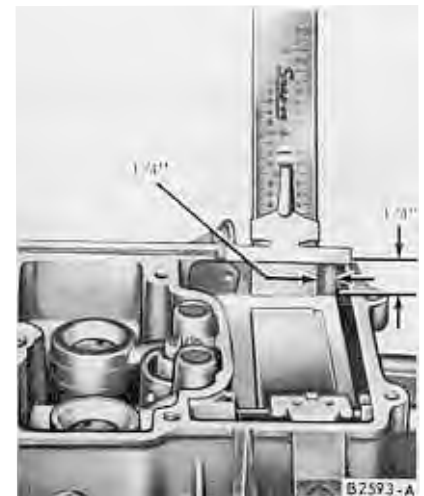

FIG. 13—Fuel Level Float Adjustment (Wet)—Typical for 2-V and 4-V Carburetors
6. While the engine is idling, use a standard depth scale to measure the vertical distance from the top machined surface of the carburetor main body to the level of the fuel in the fuel bowl (Fig. 13). The measurement must be made at least $\frac{1}{4}$ inch away from any vertical surface to assure an accurate reading, because the surface of the fuel is concave (higher at the edges than in the center). Care must be exercised to measure the fuel level at the point of contact with the fuel. Refer to the specifications (Part 10-8), for the correct fuel level (wet) setting.